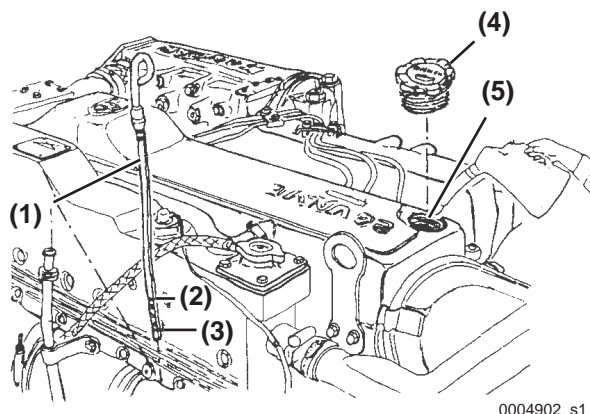

Figure 3-22
2. Remove the dipstick (**Figure 3-22, (1)**) and wipe with a clean cloth.
4. Remove the dipstick. The oil level should be between the upper (**Figure 3-22, (2)**) and lower (**Figure 3-22, (3)**) lines on the dipstick.
1. **NOTICE:** Prevent dirt and debris from contaminating engine oil. Carefully clean the dipstick and the surrounding area before you remove the cap. Remove the oil filler port cap (**Figure 3-22, (4)**) from filler port (**Figure 3-22, (5)**) and fill with engine oil.
2. Fill with oil to the upper limit on the dipstick (**Figure 3-22, (2)**). **NOTICE:** NEVER mix different types of engine oil. This may adversely affect the lubricating properties of the engine oil. NEVER overfill. Overfilling may result in white exhaust smoke, engine overspeed or internal damage.